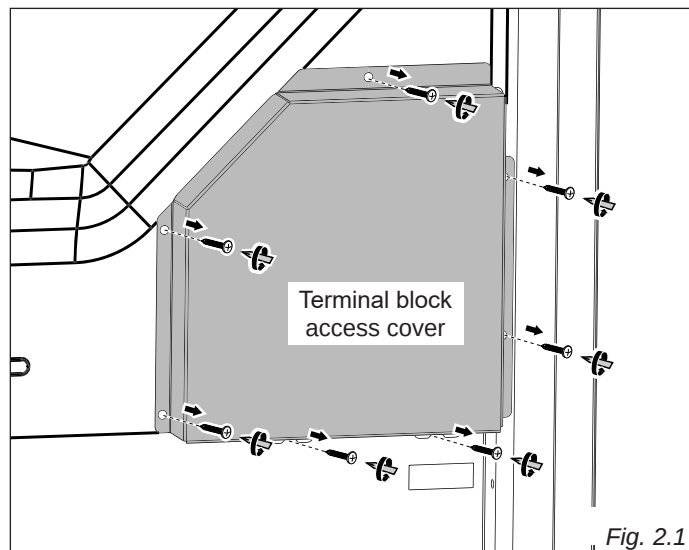

Fig. 2.1
- Units may be hard wired to the power supply. The installer must provide approved flexible aluminum conduit, 3/4" (19 mm) trade size, maximum 6ft (1.8 m) long. Locate the terminal block on the rear of the unit and remove access cover (fig. 2.1).
- Reinstall the Terminal Block cover (fig. 2.1).